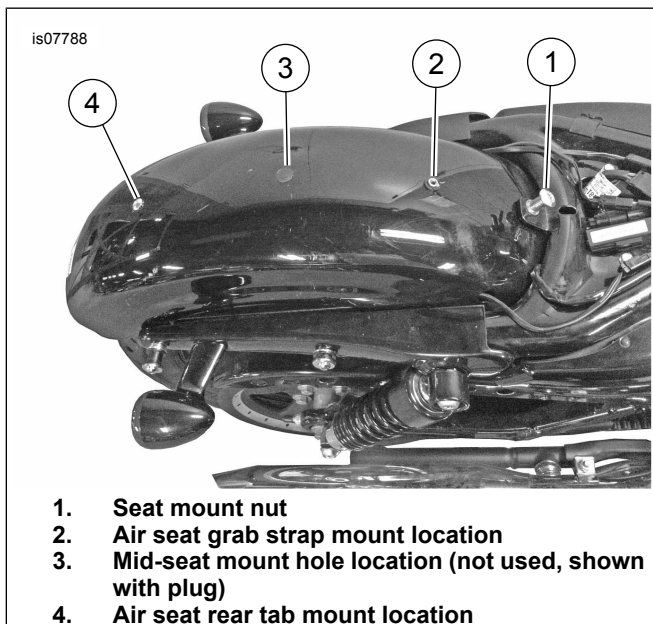

Figure 1. Sportster Rear Fender Configuration
2. See Figure 1. If there is **NO seat retention nut** at the forward seat-mount location (2), install the seat retention nut from the Seat Nut Kit (Figure 9, Item 7).
3. See Figure 1. **Chopped-fender Sportster models (like 883L, 883N, 1200N, 1200V 1200X)** have a threaded hole at the rear seat mount location (4), and require a nylon step washer (Figure 9, Item 10) to protect the fender when the seat is installed. Remove the screw in the rearmost fender hole and discard. **Full-fender Sportster models:** If the motorcycle is not equipped with a seat retention nut at the rear seat mount hole location (4), one must be installed in order to install the seat.
- a. If the retention nut from the Seat Nut Kit (Figure 9, Item 7) is available, install **that** nut. If the retention nut from the Seat Nut Kit was installed earlier, remove the mid-fender location (Figure 1, Item 3) retention nut already installed on the vehicle.
4. See Figure 1. At the forward hole location (2), thread the hex screw into the retention nut finger-tight.